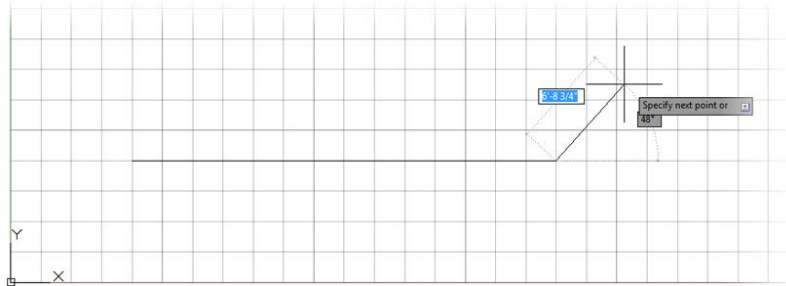

FIGURE 3.13: The first line of the cabin wall is drawn.
- At this point, click the left mouse button to draw the first line of the cabin wall (see Figure 3.13).